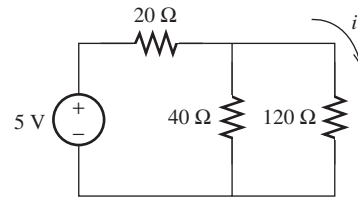

FIGURE P2.26 Circuit for Problem 2.26.
2.26 (H)* Find the current, i , in the circuit shown in Figure P2.26.